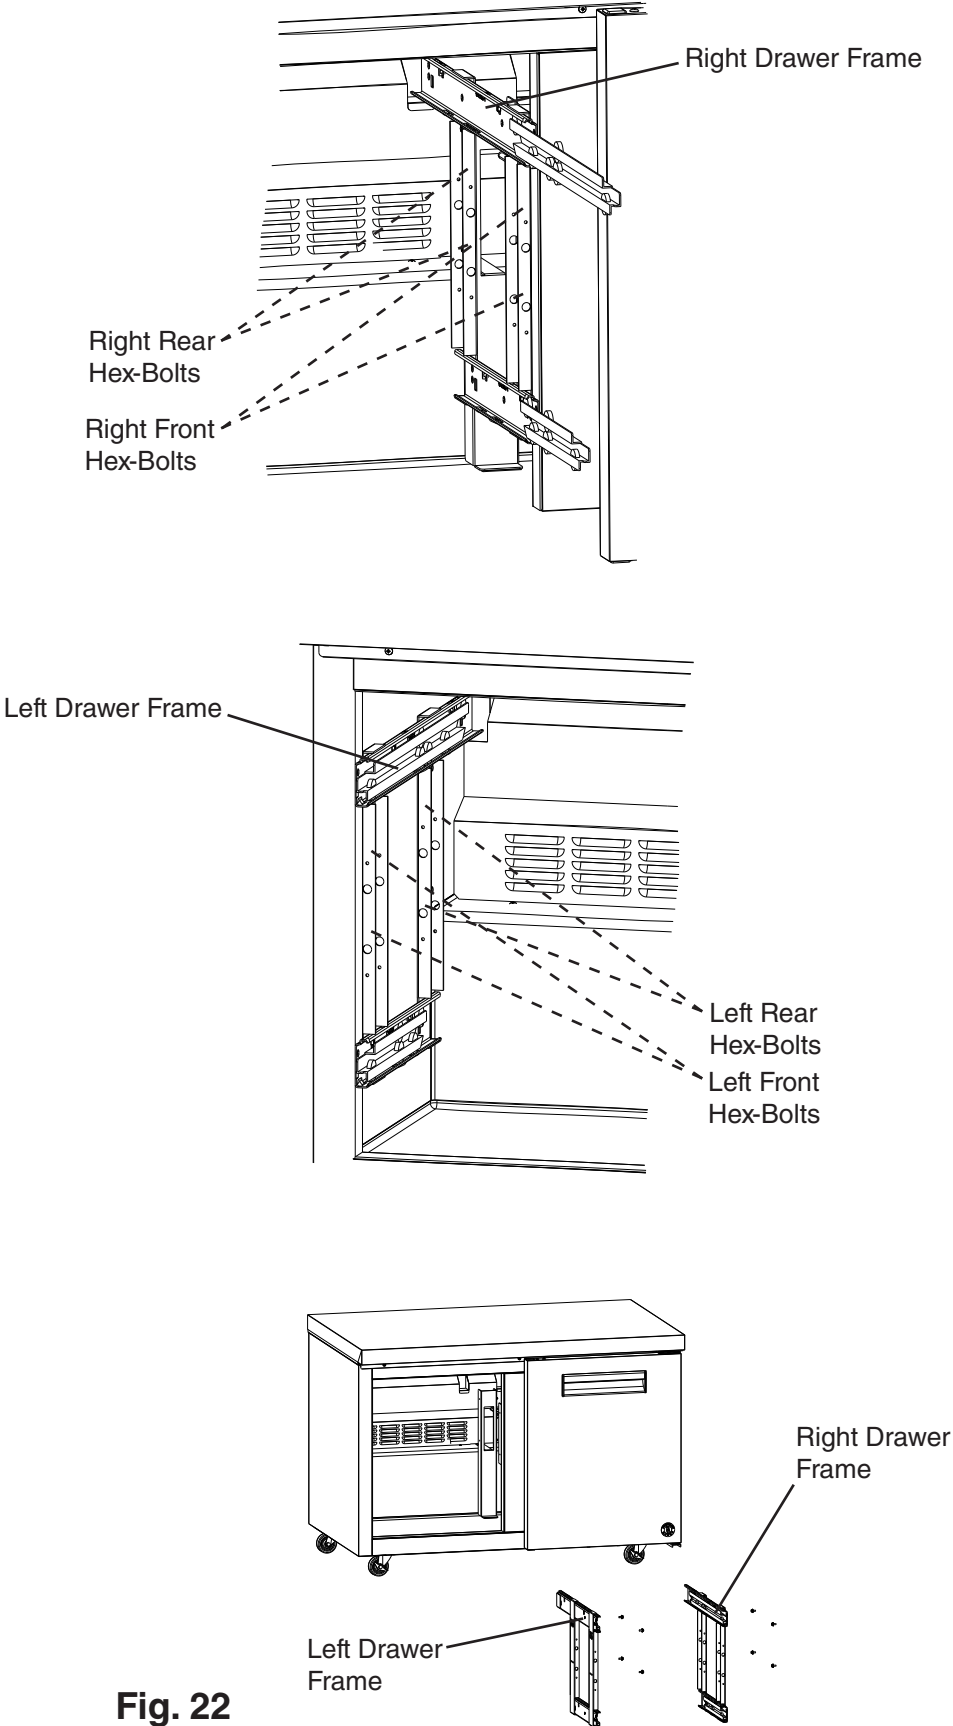

Fig. 22
4) Remove the hex-bolts from the drawer frames (4 hex-bolts per frame), then remove the drawer frames. See Fig. 22.